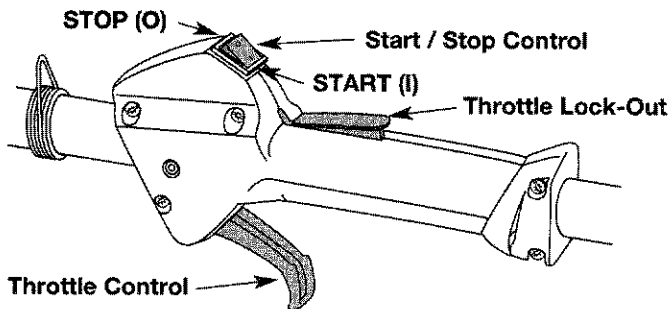

Fig. 20
3. Put the Start/Stop Engine Control in the **START (I)** position (Fig. 20).
6. While pressing the throttle lock-out, squeeze the throttle control to the wide open (full throttle) position (Fig. 20).
1. Put the Start/Stop Engine Control in the **START** (I) position (Fig. 20).
4. While pressing the throttle lock-out, squeeze the throttle control to the wide open (full throttle) position (Fig. 20).
2. To stop the engine, put the Start/Stop Engine Control in the **STOP [O]** position (Fig. 20).